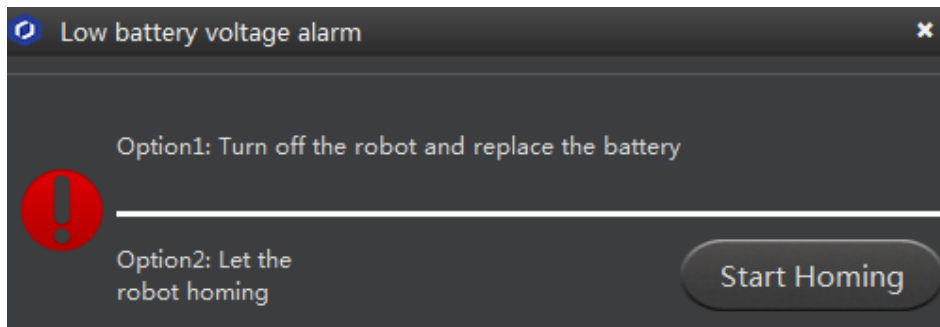

Figure 7.3 Low battery voltage alarm
- Step 1** The page shown in Figure 7.3 is displayed when the low battery voltage alarm is triggered.